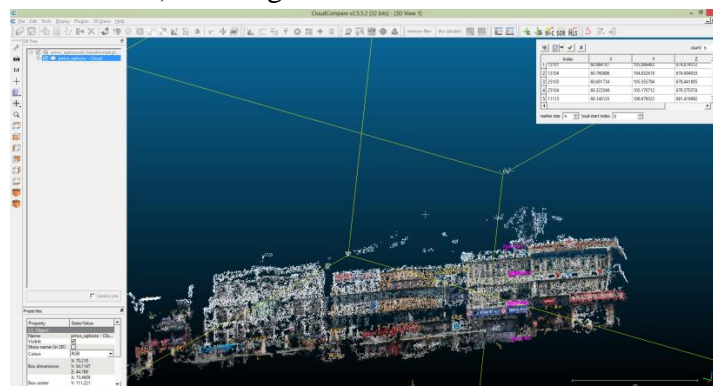

Fig 16: Point selection in Cloud Compare
- The point would appear on the point cloud as well as on the new window. (Repeat the same steps for all the floors). See Fig 16